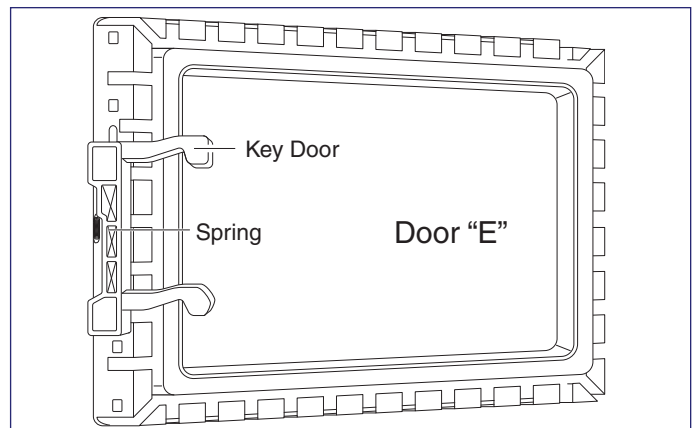

Figure 4-14. Key Door & Spring
2. Detach spring from Door "E" and key door. (See Figure 4-14)